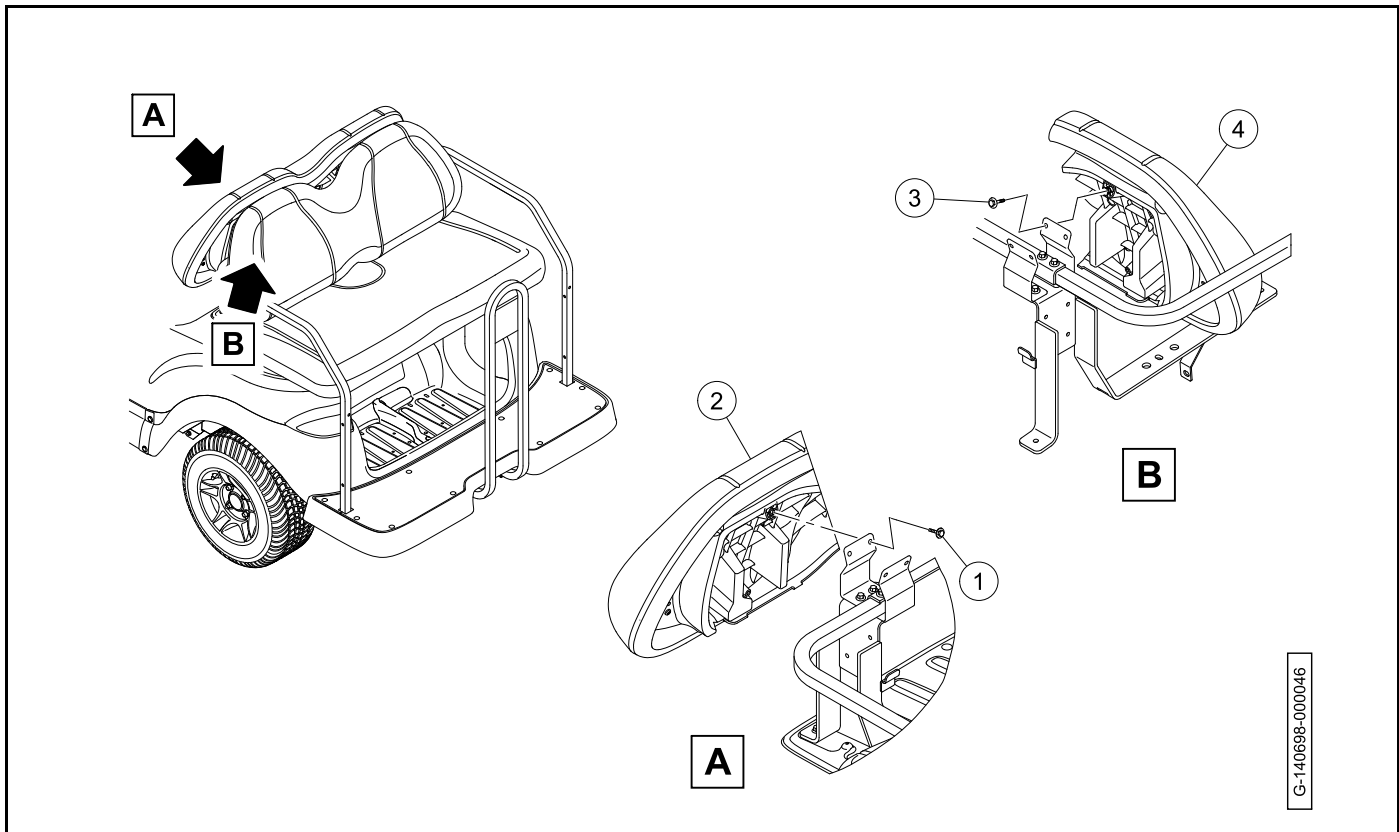

Figure 4-42
1. Remove the screws (1) from the front seat back (2) (Figure 4-42).
3. Remove the screws (3) from the rear seat back (4).